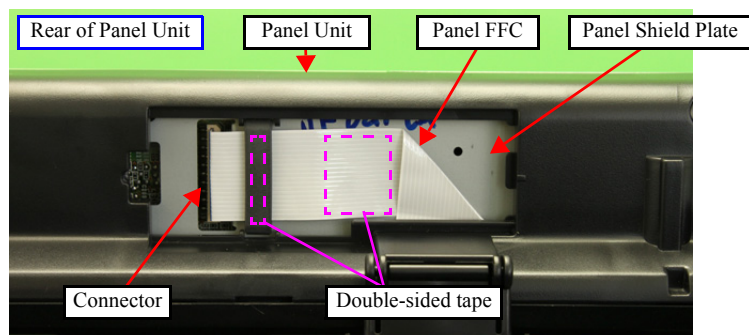

Figure 8-9. Removing the Upper Housing (2)
- Secure the Panel FFC and ferrite core to the Panel Shield Plate with double-sided tape. (See Fig. 8-9 (p267).)